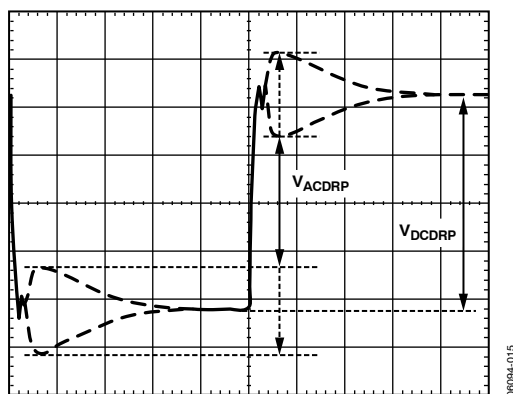

Figure 17. AC Load Line Waveform
14. Measure the output waveform (use dc offset on scope to see the waveform). Try to use a vertical scale of 100 mV/div or finer. This waveform should look similar to Figure 17.
15. Use the horizontal cursors to measure  $V_{ACDRP}$  and  $V_{DCDRP}$  as shown in Figure 17. Do not measure the undershoot or overshoot that happens immediately after this step.